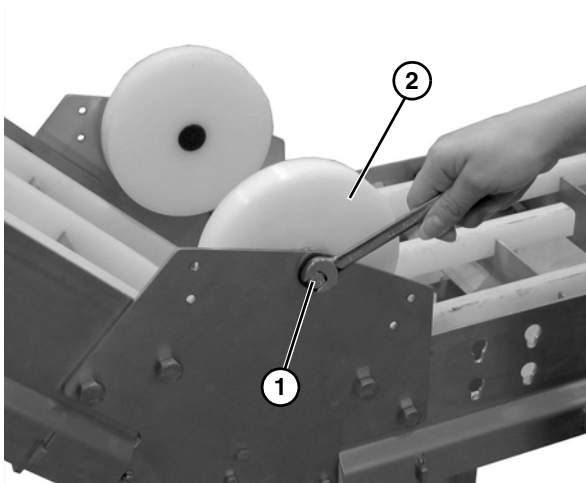

Figure 66
3. Remove the cap screw (**Figure 66, item 1**) and the hold down roller (**Figure 66, item 2**). Repeat on opposite side of the conveyor.